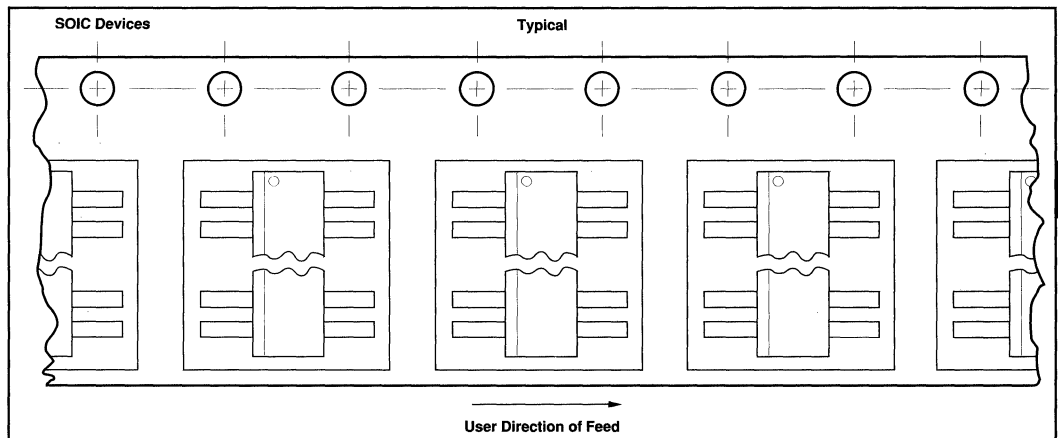

FIGURE 2.
(1) Controlling dimension: Inch. In case of conflict between the English and metric dimensions, the inch dimensions control.
- (2) Dimensioning and tolerancing per ANSI Y14.5M-1982.
- (3) Dimensions A, A1, and L are measured with the package seated in JEDEC seating plane gauge GS-3.
- (4) D and E1 dimensions for plastic packages do not include mold flash or protrusions. Mold flash or protrusions shall not exceed .010 inch (0.25mm).
- (5) E and eA measured with the leads constrained to be perpendicular to plane T.
- (6) eB is measured at the lead tips with the leads unconstrained.
- (7) N is the maximum number of terminal positions.
- (8) Corner leads (1, 4, 5, and 8) may be configured as shown in Figure 2.
- (9) For automatic insertion, any raised irregularity on the top surface (step, mesa, etc.) shall be symmetrical about the lateral and longitudinal package center-lines.